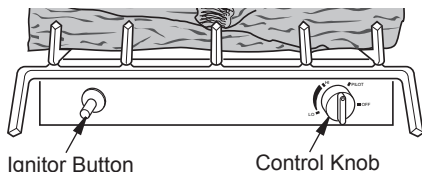

Figure 25 - Control Knob and Ignitor Button Location
5. Turn control knob counterclockwise  to the PILOT position. Press in control knob for five (5) seconds (see Figure 25).